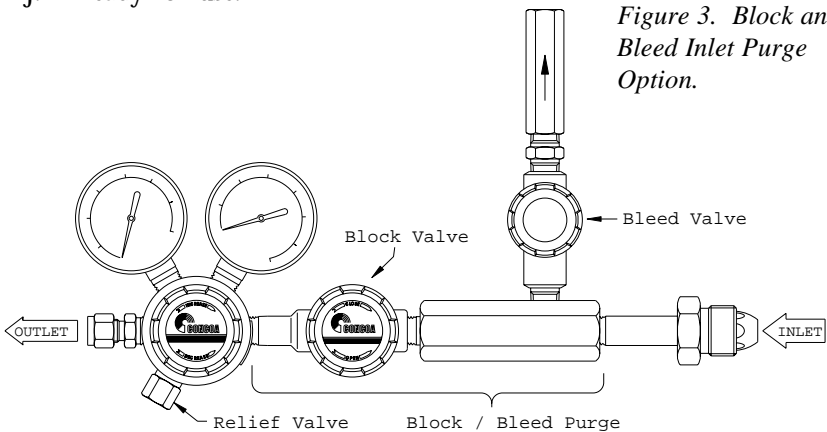

Figure 3. Block and Bleed Inlet Purge Option.
3.4 CYLINDER CHANGE - ISOLATED GAS SYSTEMS. For cylinder change using a block and bleed inlet purge, perform the following as shown in Figure 3:
- f. Close bleed valve after five (5) seconds.
- g. Wait thirty (30) seconds.